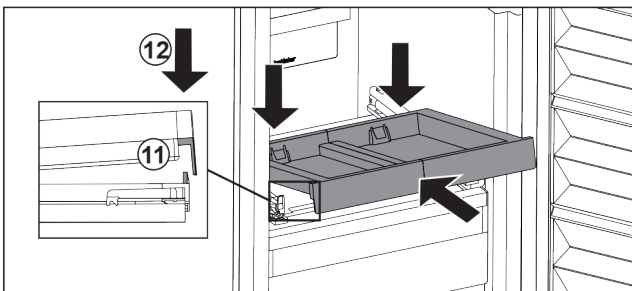

Fig. 37
- ▶ Slide in at an angle. Make sure that the stop is behind the lug on both sides. *Fig. 37 (11)*
- ▶ Lower the pull-out board at the front. *Fig. 37 (12)*